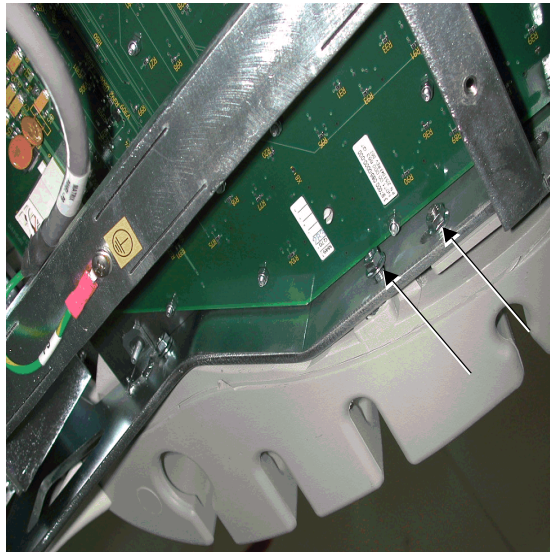

Figure 8-24 Probe Holder Nuts
- 2) Remove the two 8mm securing nuts (located below the keyboard) that fasten each of the probe holders to the metal frame - refer to Figure 8-24 "Probe Holder Nuts" on page 8-23.
- 4) Fasten each probe holder beneath the keyboard with the two (8 mm) securing nuts, shown in Figure 8-24 "Probe Holder Nuts" on page 8-23.